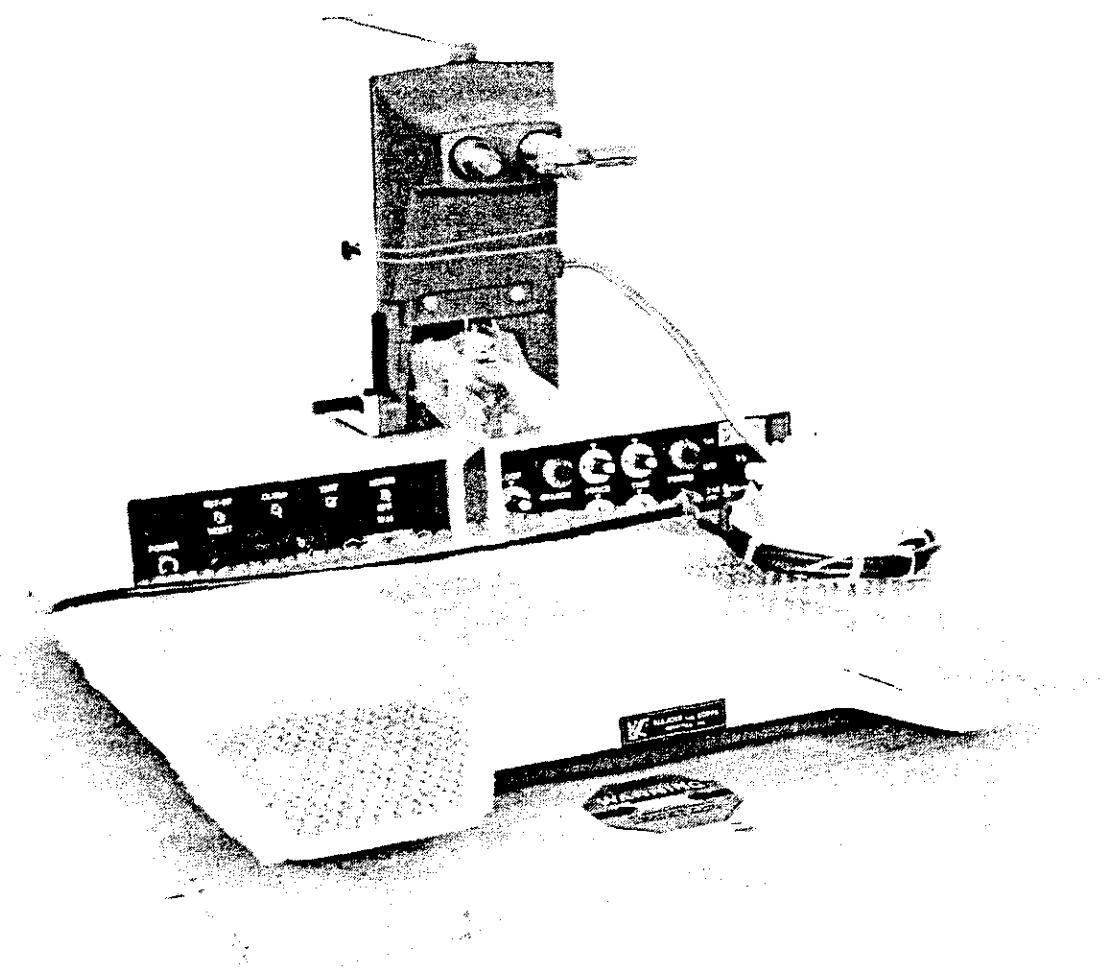

Figure 1-2 Wedge Bonder on Shipping Board
- Step 10 Strip off the bubble sheet from the Wedge Bonder base (see Figure 1-2).
- Step 11 From the bottom of the shipping board remove the shipping screws, spacers and shipping board from the base of the Wedge Bonder (see Figure 1-2) using a flat, 9/16" wrench.
- Step 13 Remove the protective covering of the area light by cutting the twine at the ends of the woven sponge sleeve and slipping the sleeve off (see Figure 1-2).